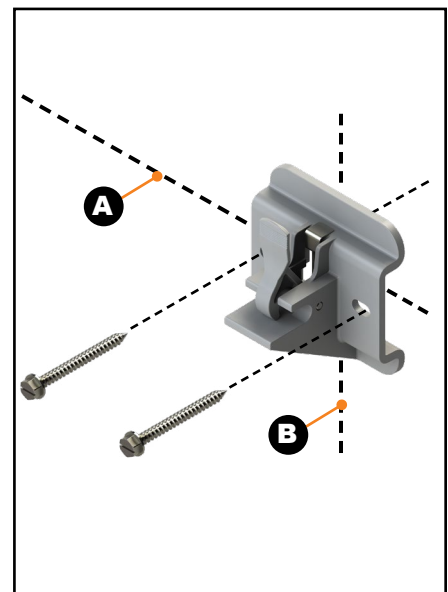

Fig.5
3. Position the bottom bracket with the fastening points at the floor line (Fig.5A) and center the bracket on the centerline mark of the support arm assembly (Fig.5B). Mark the hole locations. Using a 3/16" drill bit, pre-drill both holes. Apply a liberal amount of sealant over the holes and attach the bracket using the 1/4" x 2 1/2" lag screws provided (Fig.5).